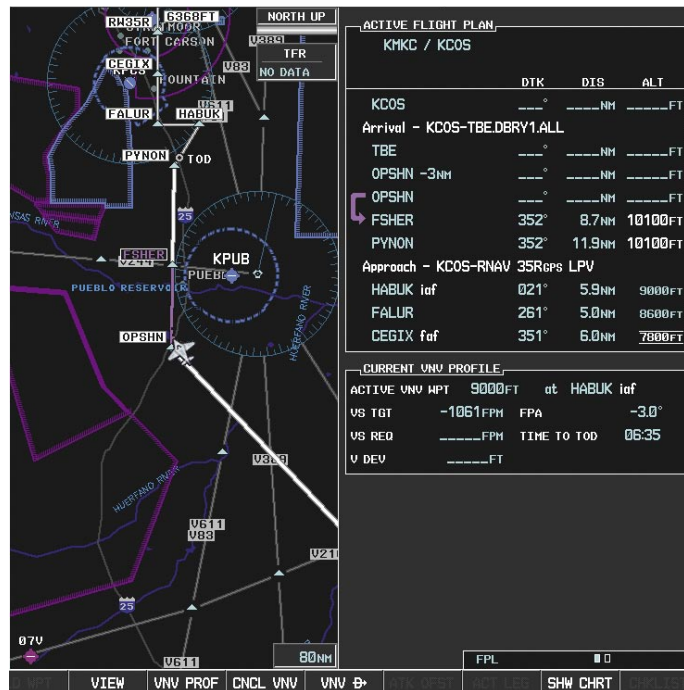

Figure 5-123 Tracking the OPSHN to FSHER Leg
- 19) After passing OPSHN, the next leg of the arrival turns magenta as shown in Figure 5-123. The magenta Map Pointer in the flight plan list now indicates the OPSHN to FSHER leg of the arrival procedure is now active.